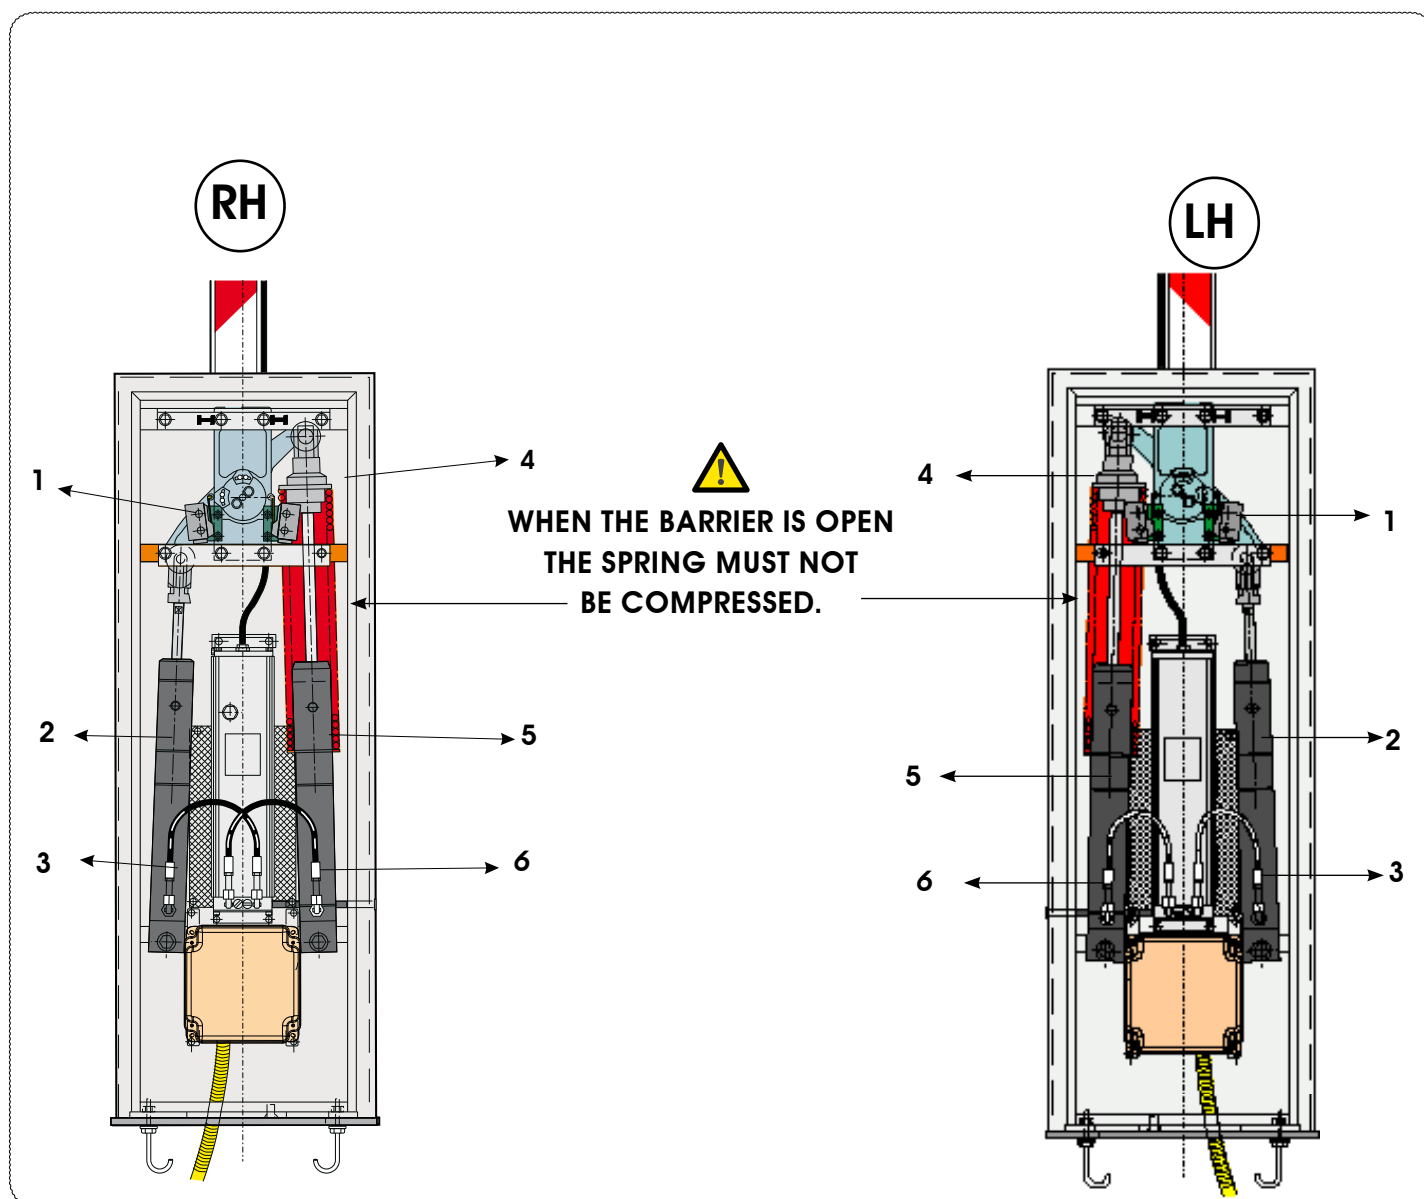

Fig. 18
5. Fully loosen the spring adjustment ring-nut (Fig.18 ref. ④).
6. Detach the feed pipes (Fig.18 ref.③, and ⑥) from the two pistons and plug the unions.
7. Remove the two pistons (Fig. 18 ref. ② and ⑤) from the upper and lower fittings and reverse their position, taking the rocker (Fig.18 ref. ①) against the opening travel limit mechanical stop.
8. Remove the pinion pocket and re-install it to set the barrier at opening, as in Fig. 18.
9. Fit the feed pipes as shown in Fig. 18, according to the configuration of the barrier (RH or LH).